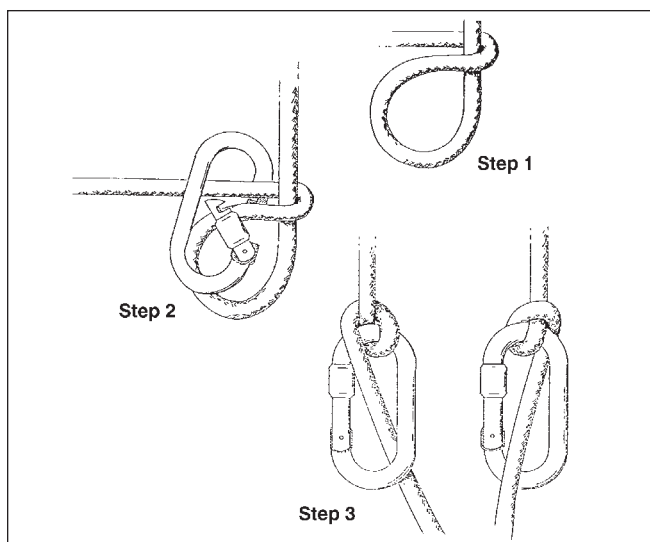

Figure 4h—Münter hitch.
- A. Attach a large locking carabiner to the anchor sling. Using a Münter hitch (figure 4h), attach the belay line to the locking carabiner. Lock and check the carabiner gate.